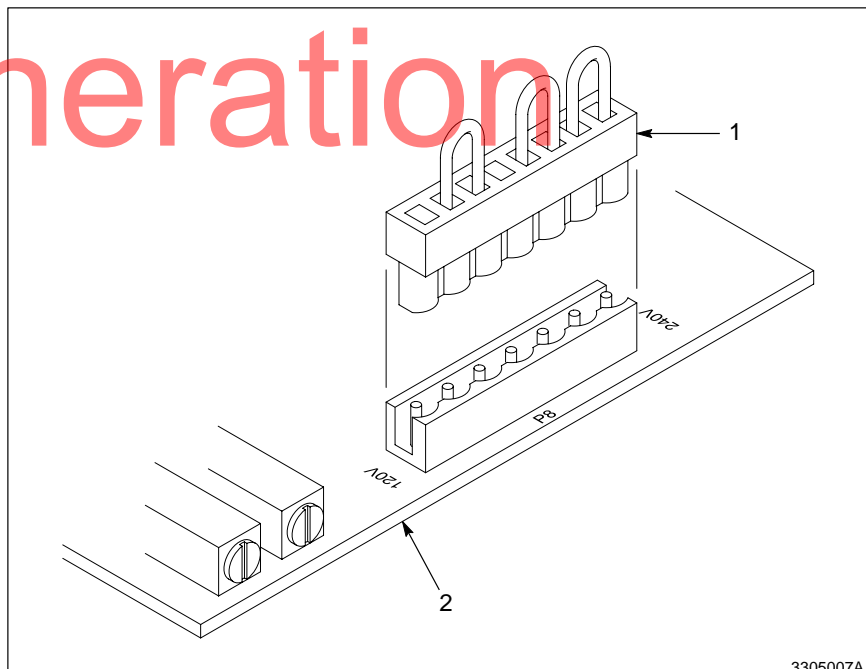

Fig. 3-7 Voltage-selector jumper
4. See Figure 3-7. Position the jumper (1) on power/logic board P8 to the desired voltage. The input voltage etched on the board (2) is visible when you select the desired voltage.